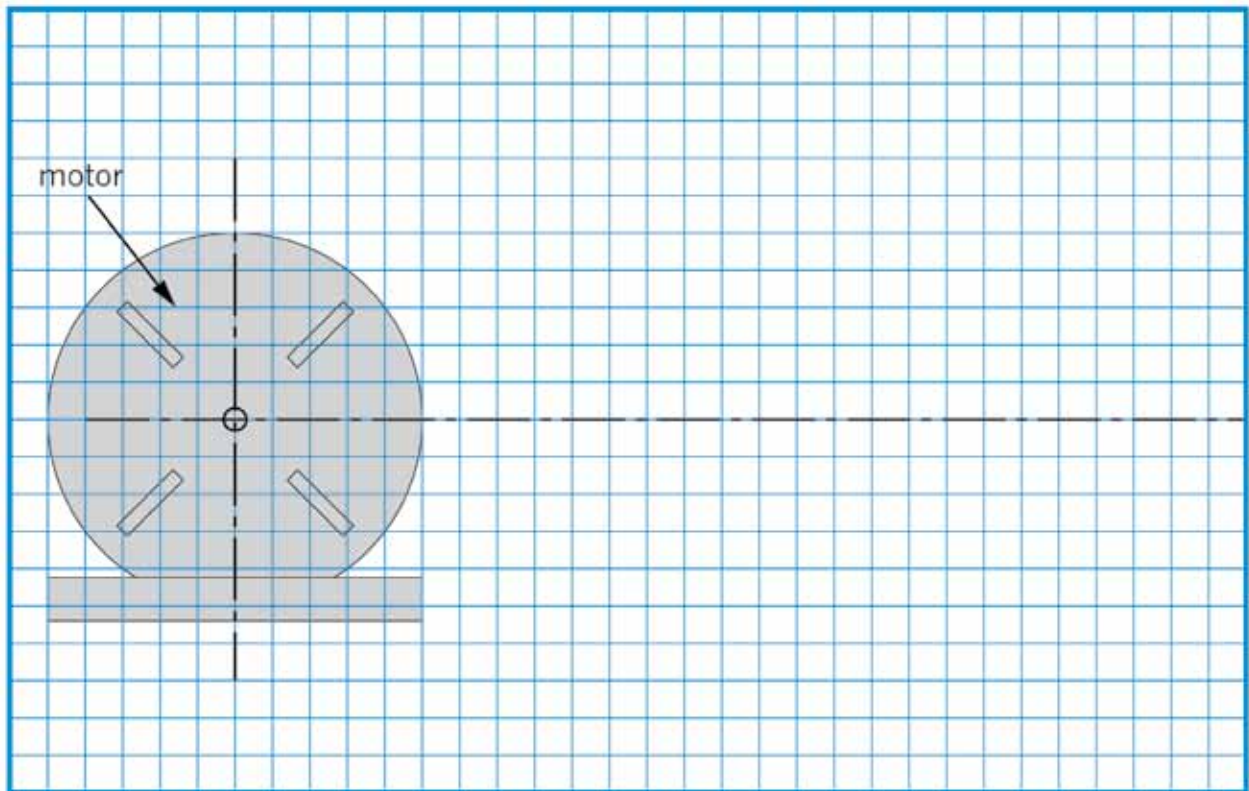

Figure 16: Use this grid to show how you will improve the winch.
5. Complete the drawing in Figure 16 to show how you will improve the winch. Draw the driver gear on top of the motor. Then show where you will place the winder, and draw the winder gear. Use a pitch of 7,5 mm and a depth of 5,0 mm for the gear teeth. Label your drawing with the pitch and number of teeth on each of the gear wheels.